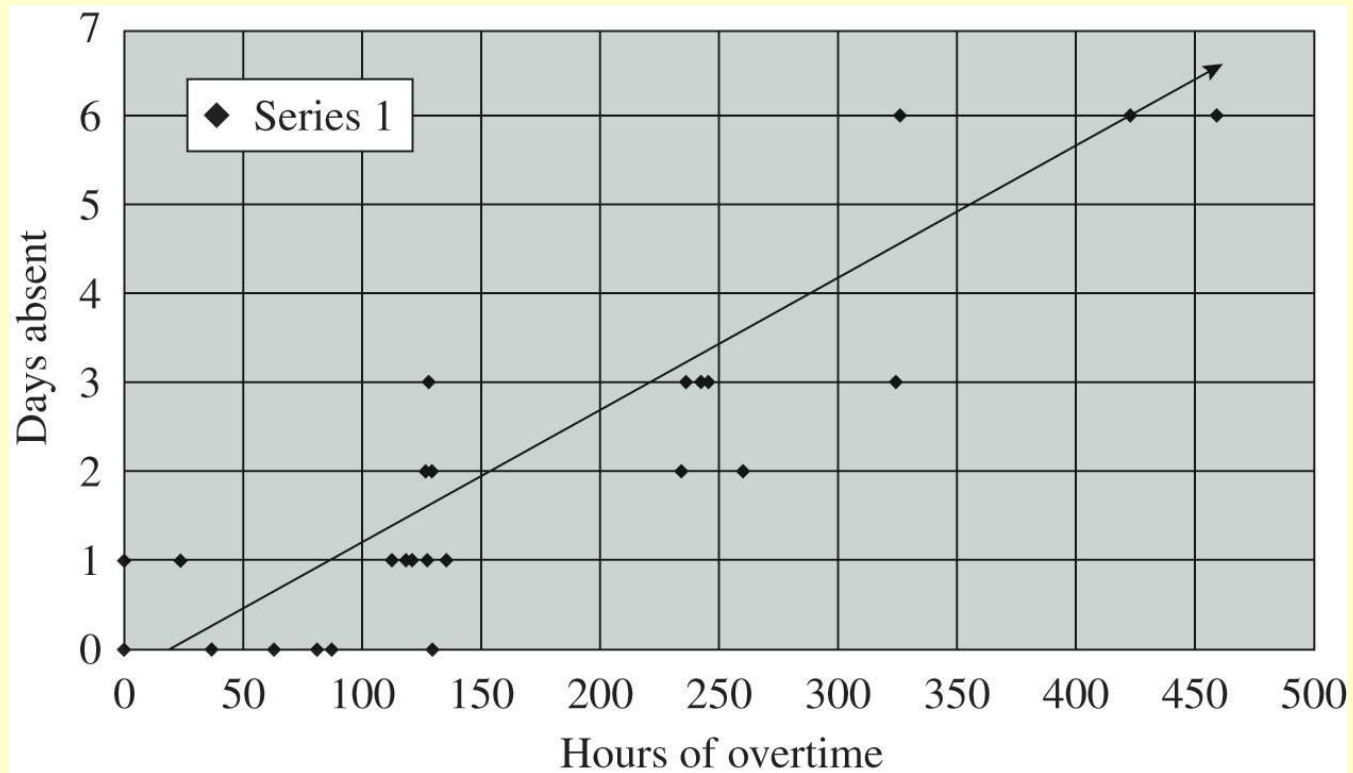

Figure 10-11
- **Problem:** Healthy People, Inc., a company specializing in home healthcare solutions for U.S. consumers, was a growing company. The company wanted to study the relationship between absenteeism and the number of overtime hours worked by employees. Thirty employees were randomly selected, and numbers of overtime hours were graphed against numbers of days absent for the previous year. (See Figure 10-11.)